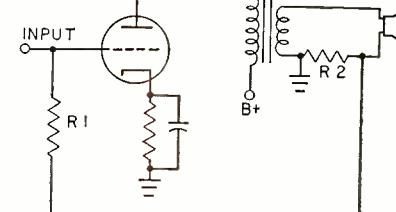

Fig. 5. The relationship between the resistance of R_2 and the impedance of the loudspeaker load determines the amount of degenerative feedback here.
back. Removing the cathode bypass capacitor from a stage results in degeneration or negative feedback. Fig. 4A shows a triode amplifier in which the cathode bias resistor has not been bypassed, resulting in a loss in gain. The advantages of current feedback are the same as for voltage feedback; the only difference being the change in tube plate resistance mentioned earlier. The amount of feedback can be controlled by varying the portion of the cathode resistor left unbypassed. Fig. 4B shows a stage in which the feedback is reduced from that of Fig. 4A. Note that the bias voltage will be the same value in each case because the d.c. component of plate current must flow through 1000 ohms but the feedback factor in (B) will be reduced by approximately one-half. An alternate method of providing current feedback is shown in Fig. 5. Again the signal fed back is proportional to the current flowing in the output. In this circuit the input signal is developed across R_1 and R_2 to ground. But part of the output signal is also developed across R_2 . These signals will tend to cancel each other. Result: negative feedback.